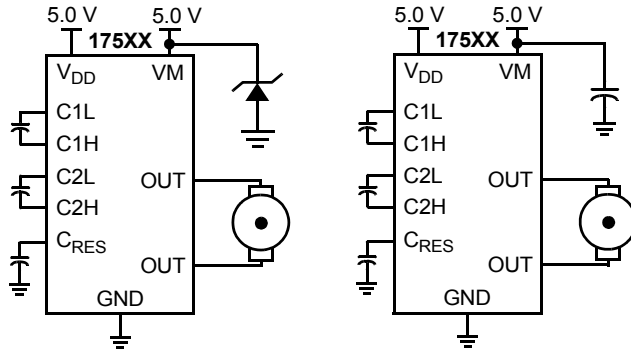

Figure 5. CEMF Snubbing Techniques
Care must be taken to protect the IC from potentially damaging CEMF spikes induced when commutating currents in inductive loads. Typical practice is to provide snubbing of voltage transients by placing a capacitor or zener at the motor supply voltage terminal (VM) (see Figure 5).